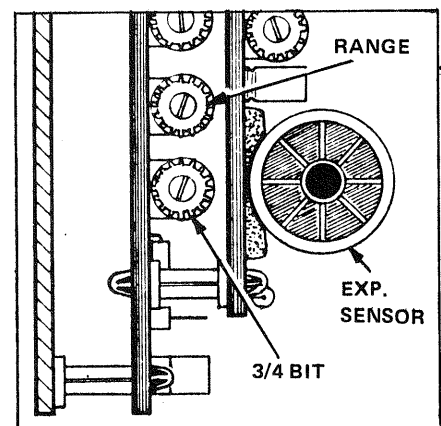

FIGURE 9-57 Range and 3/4 Bit Controls locations.
- A. Leave the (4) TEMPO Control set to the Point the Lamp lights and, while watching the Lamp, adjust the Range Control (see FIGURE 9-57) slightly CLOCKWISE or COUNTERCLOCKWISE, (whichever direction turns the Lamp OFF). Continue turning the Control 1/8 turn past the point the Lamp went out, then turn the (4) TEMPO Control through its entire range to be sure that the Lamp does NOT light and proceed to STEP 9-74. If turning the Range Control does NOT extinguish the Lamp, reset the Control to the point the Lamp is out the longest and proceed to Point B on page 153.
- B. Turn the 3/4 Bit Control (See FIGURE 9-57 on page 152) slightly CLOCKWISE or COUNTERCLOCKWISE (try both directions until the Lamp goes OUT), continue turning the Control 1/8 turn past the point the Lamp went out, then repeat Points A and B until the Lamp stays OUT throughout the entire range of the (4) TEMPO Control. Proceed to STEP 9-74.